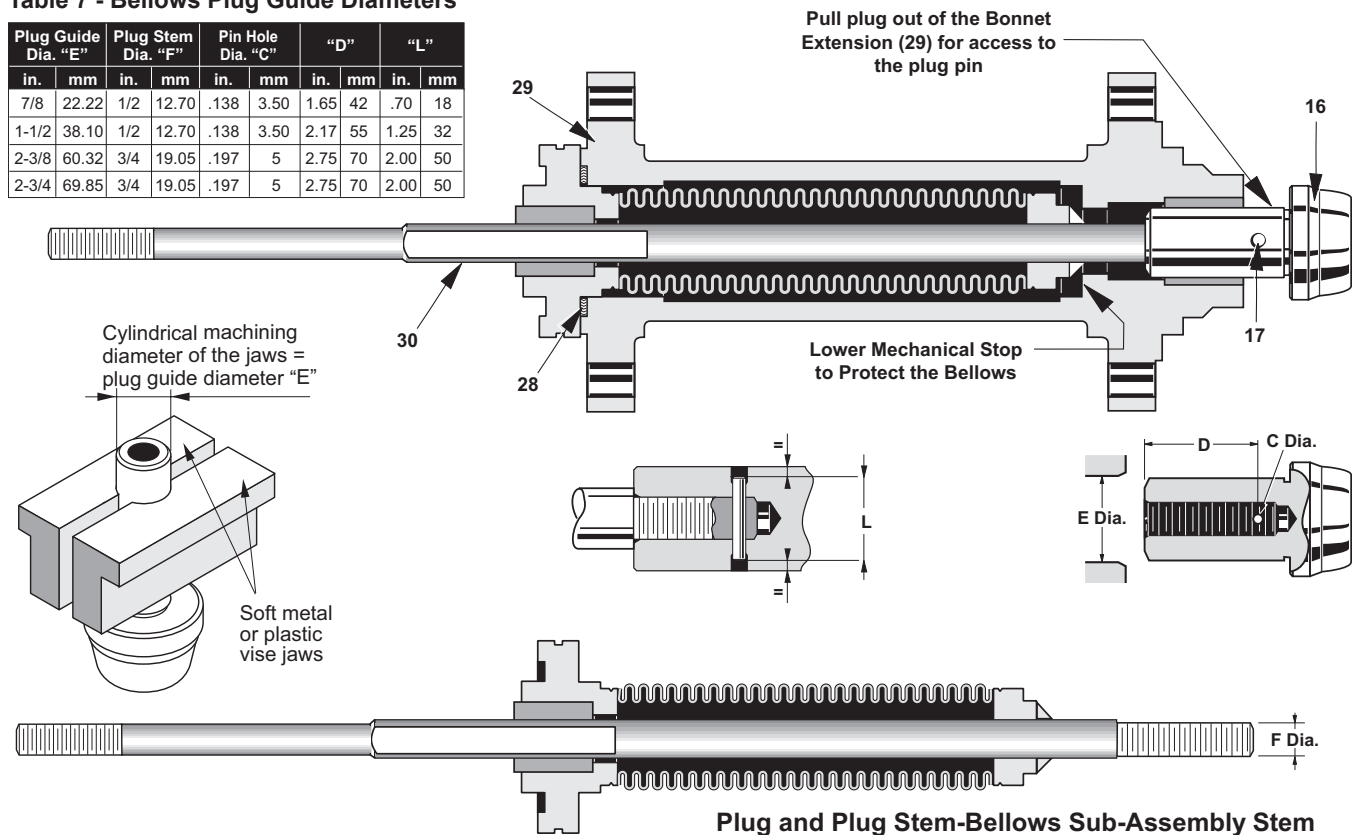

Figure 18 - Unpinning and Pinning of the Plug to Stem
Note: *Always use soft metal vise jaws to hold the plug guide surface. Failure to take this precaution could result in damage to the plug guide surface during pinning - see Figure 18 on page 29*
(Diameter C in Figure 18 on page 29) as the Plug Shank Hole.
- Match Diameter C - see Figure 18 on page 29.
- Measure Dimension D based on the plug guide diameter and stem diameter - see Figure 18 on page 29.
- Select the correct size pin based on the plug guide diameter and stem diameter - see Figure 18 on page 29. Apply a small amount of grease on the pin and hand-assemble it into the hole in the plug.
- Press fit the pin into the hole using a hammer. Complete the pinning operation by ensuring that the pin is recessed by the same amount from both sides - see Figure 18 on page 29).